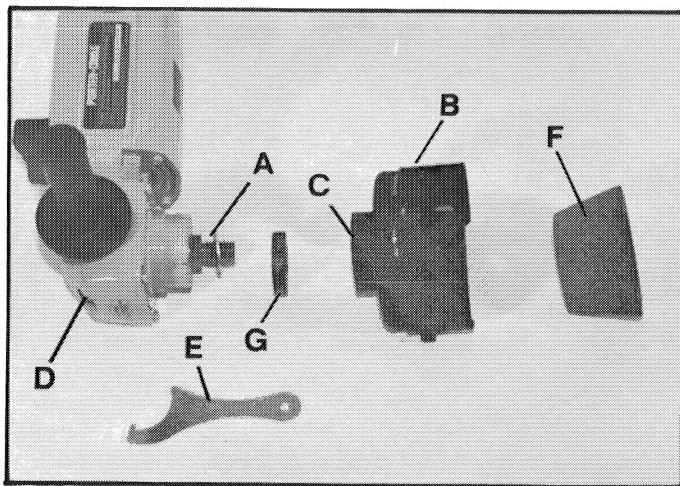

Fig. 8
3. Place washer (A) Fig. 8, on spindle as shown.
4. Mount the guard (B) by sliding clamp over gear housing collar.
6. Firmly tighten clamp nut (C) Fig. 8.
7. Depress spindle lock pin (D) Fig. 8, and thread backup flange (G) to spindle with counterbored side toward machine. Tighten firmly with the spanner wrench (E) provided.